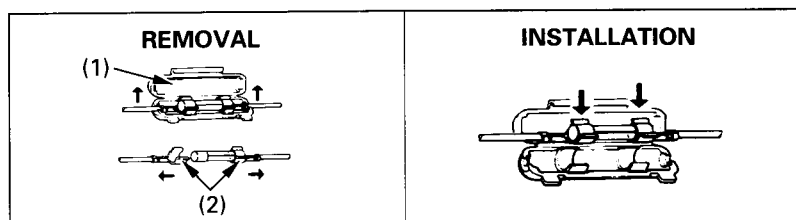

Fig. 4-23 (1) Fuse holder
2. Open the fuse holder (Fig. 4-23) and lift out the fuse with the clips (2).